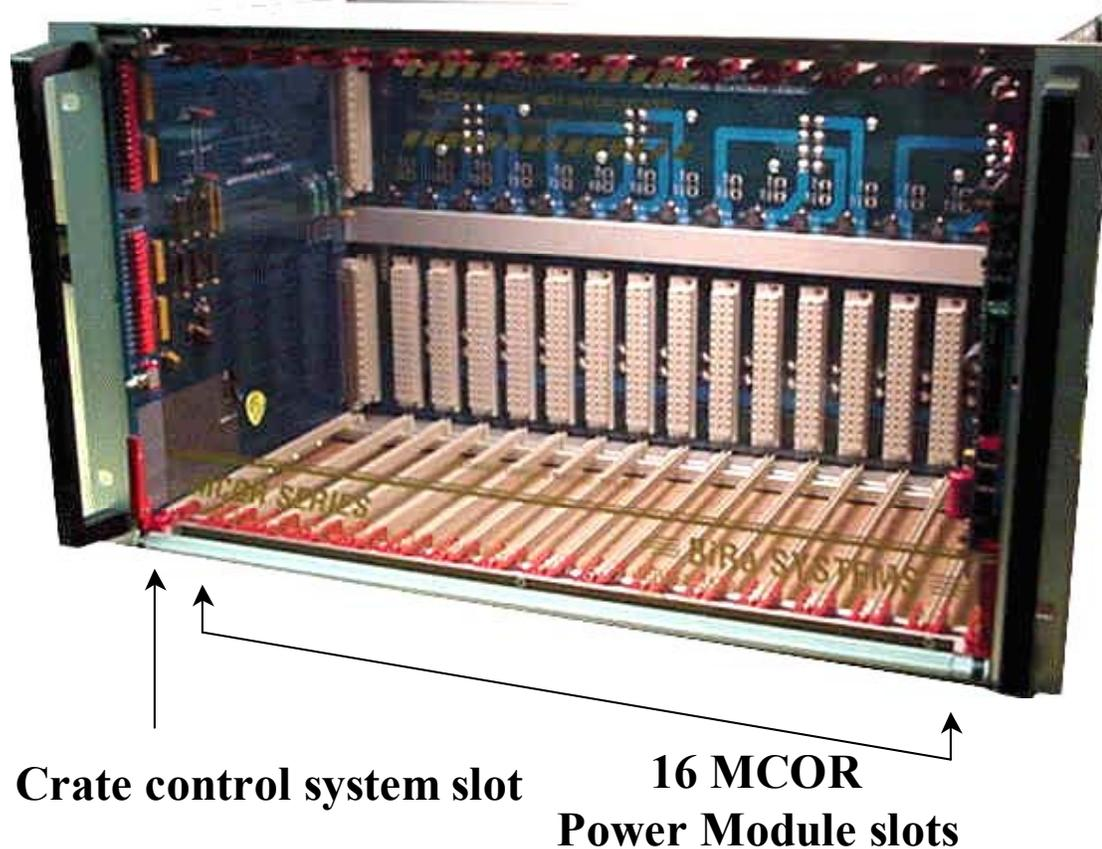

Figure 1.2. The MCOR Crate.
1.2 Crate and Backplane. A standard MCOR crate is shown in **Figure 1.2**. The MCOR crate consists of a standard 6U by 220-mm Eurocard subrack, a custom heavy-duty backplane and a rear connector panel. Each MCOR crate has 17 slots. The slot on the far left provides two 96-pin connectors for the control system interface card. The control card can have complex control circuitry onboard, or it can simply shuttle the control signals straight to and from the DAC/SAM connectors on the back of the crate. The slot for the control card offers access to connectors J1 (ExtIntlk), J2 (CrateOk), J3 (DAC), J4 (SAM), and J9 (Bitbus) on the rear of the crate, through the backplane. The end user typically designs the control card, to meet their individual control system requirements. The remaining slots (slots 0 thru 15) provide single 48-pin mixed-use connectors for the power regulation modules.